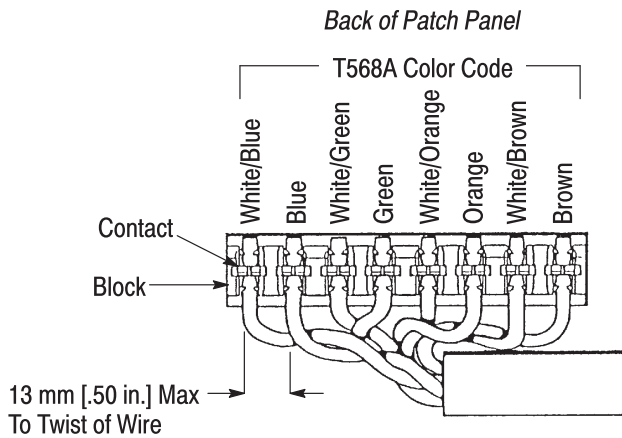

Figure 5
2. At the back of the patch panel, attach a universal wiring label, with the T568A color code side out, to each patch module. Refer to Figure 5, Detail A.
3. Arrange the wires according to the T568A color code, and terminate the wires to the blocks according to the instructions included with the tool. Keep wire twisted to a maximum of 13 mm [.50 in.] from the termination. Refer to Figure 5, Detail B.